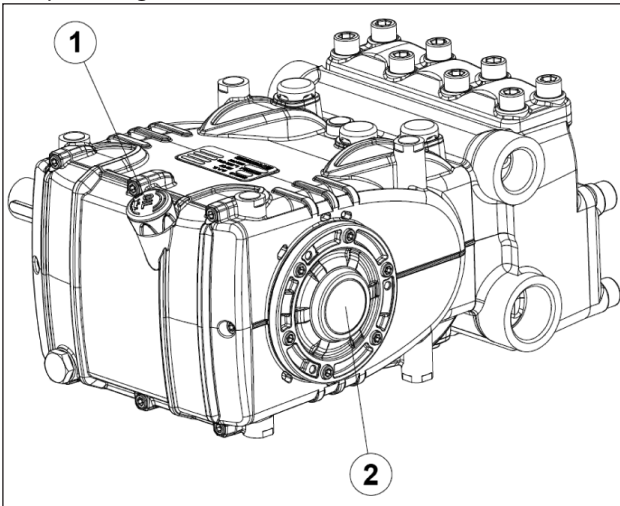

Fig. 14
- Oil in the pump casing is at level, verified with a dipstick (pos. ① Fig. 14) and exceptionally with a level indicator (pos. ② Fig. 14).